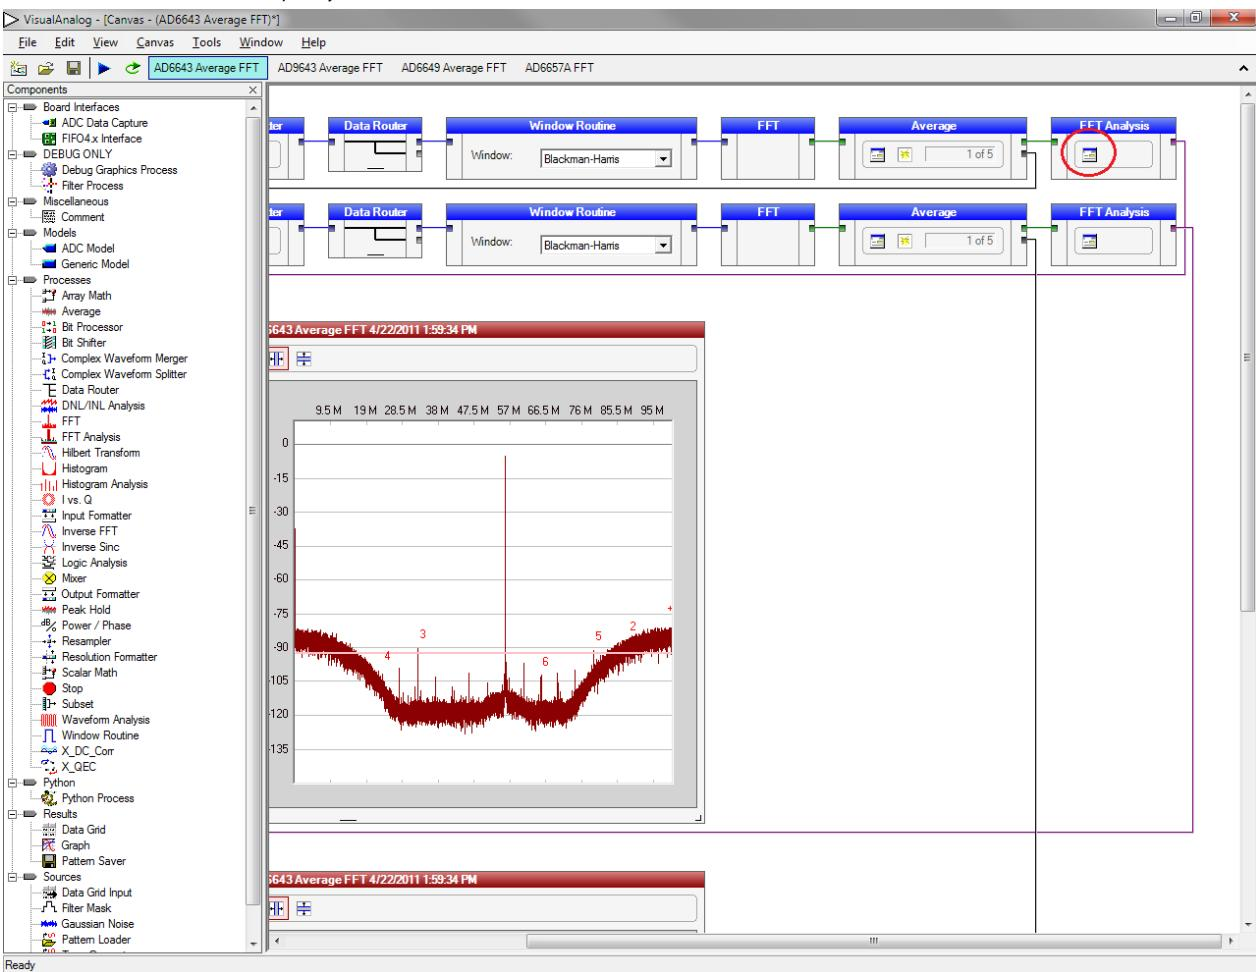

Figure 20. VisualAnalog, Main Window—Showing FFT Analysis for AD6643
6. If operating the AD6643 with NSR enabled, certain options in VisualAnalog must be enabled. Click the button circled in the FFT Analysis box (see Figure 20) in VisualAnalog to bring up the options for setting the NSR.